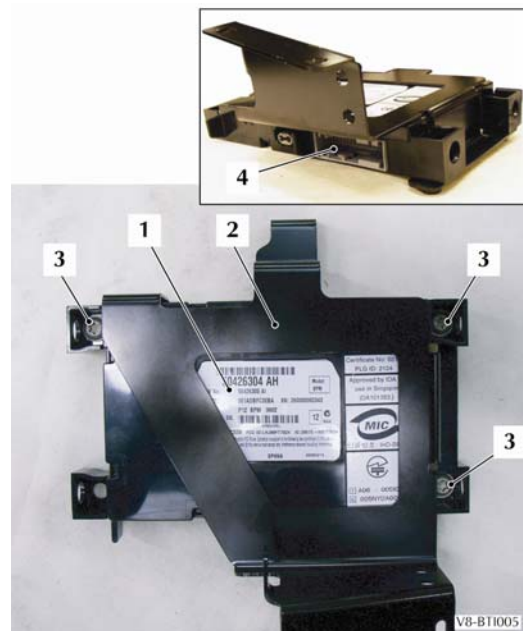

Figure 5
47. Put the new BPM (Item 1) in position on the new bracket (Item 2) (refer to the Table below and Figure 5).